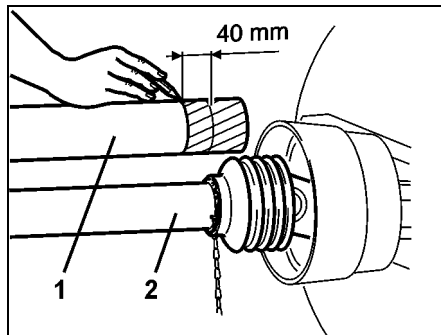

Fig. 21
- Hold the pto shaft halves (Fig. 21/1) and (Fig. 21/2) in shortest and longest operational position, check side by side the overlap of the **pto shaft tubes**.